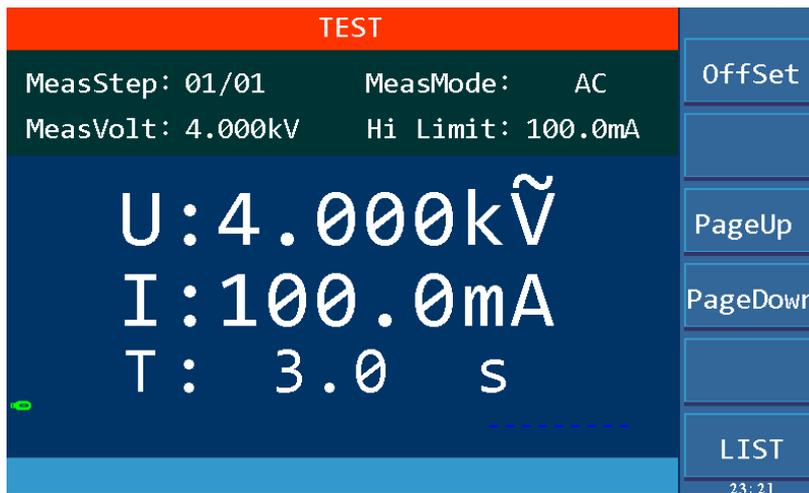
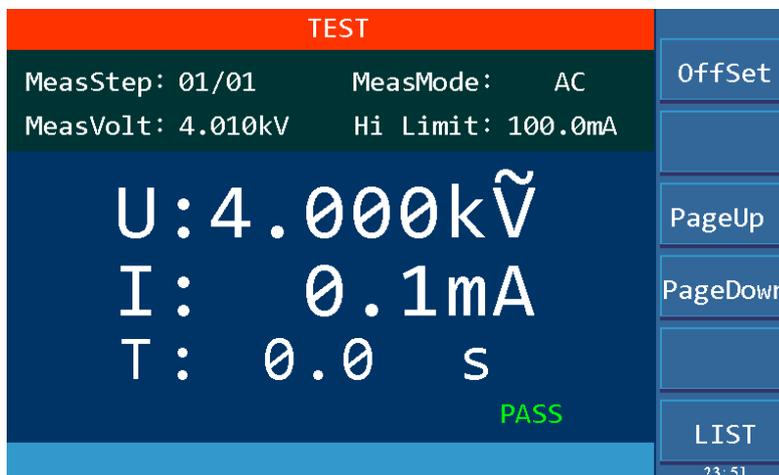
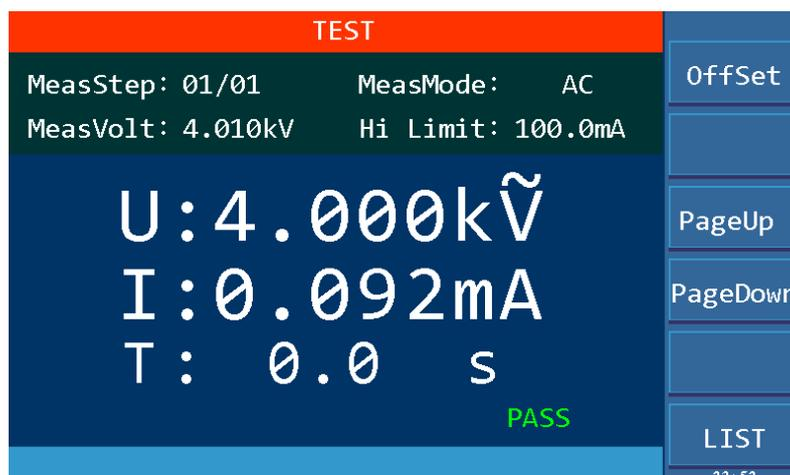

Figure 4-4.1
Figure 4-4.2
Figure 4-4.3
When the auto range, that is, the withstanding voltage auto range function is set to ON, at 0.6s before the completion of the test, if the measured current can be expressed by a lower current range, the current range is automatically changed to that lower current range. Examples are shown in Figure 4-4.1 and Figure 4-4.2 and Figure 4-4.3.
1. If the current range in TEST is set to a high current range, 100mA in Figure 4-4.1.
2. But the actual current is comparatively small, 0.1mA as shown in Figure 4-4.2.
- Then at 0.6s before the completion of the test, the current range is switched to the appropriate lower range, which is 0.092mA in Figure 4-4.3.